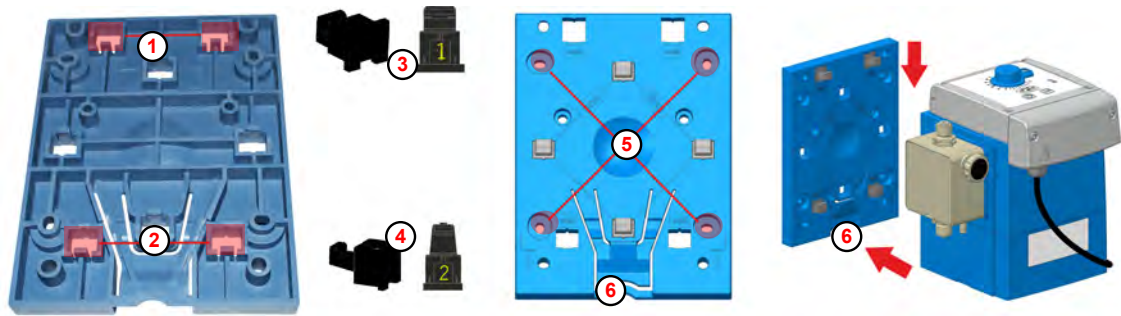

Fig. 5: Preparations for wall mounting
On the underside of the mounting plate, the boreholes for wall mounting (Fig. 5 , ① or ②) are marked with a 2.